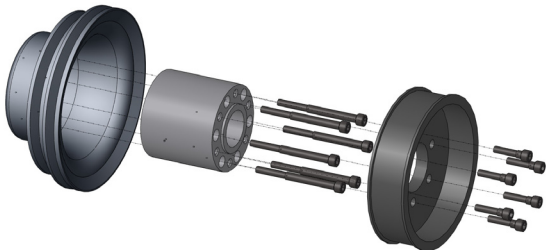

Fig. 6.1-a
- B. To assemble the crank pulley assembly on an offset bolt pattern, install six 5/16-18 x 3.25" socket head bolts with a drop of blue loctite on each fastener and NO washers through the counterbored holes of the crank pulley spacer, and through the factory crank pulley. Be sure the counterbores face the front of the vehicle. (See Fig.6.1-a.)